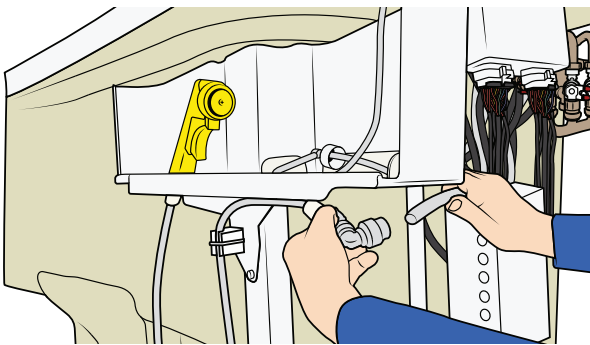

Figure 32
14. Disconnect the push fitting. See Figure 32.